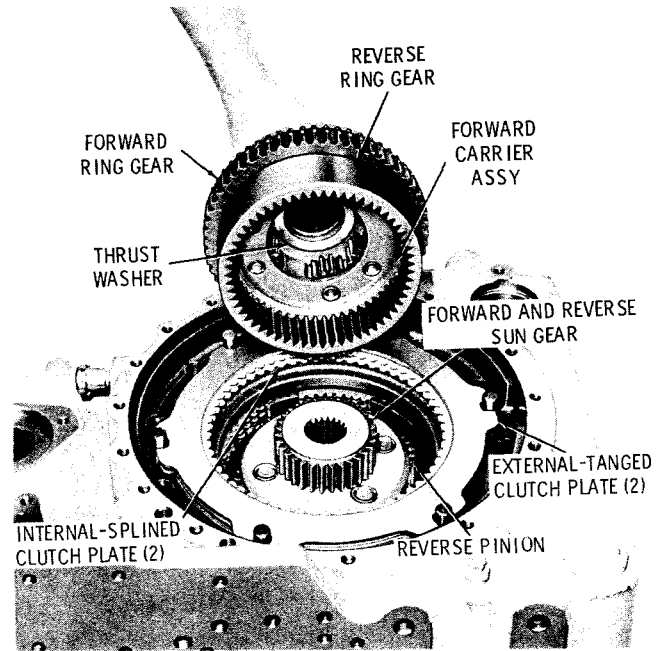

Fig. 7-29. Installing forward planetary carrier assembly and attached parts (-3 overdrive model)
(1) Beginning with an internal-splined clutch plate, alternately install two internal-splined plates and two external-tanged plates (fig. 7-29).
(2) Install the forward and reverse sun gear into the reverse planetary carrier assembly (fig. 7-29).
(3) Install ring gear 1 (B, foldout 9) onto carrier assembly 3. Retain it with snapping 11. Install ring gear 14, longer ends of external splines first, onto carrier assembly 3.
(4) Install retainer 21, flat side first, onto the rear of carrier assembly 3. Install bearing assembly 22 against the shoulder at the rear of carrier assembly 3.
(5) Install the thrust washer into the forward planetary carrier assembly, using oil-soluble grease to retain it (fig. 7-29).
(6) Install the forward carrier assembly and attached parts (fig. 7-29). Rotate the carrier and ring gears until all gear teeth and clutch plate splines are engaged.